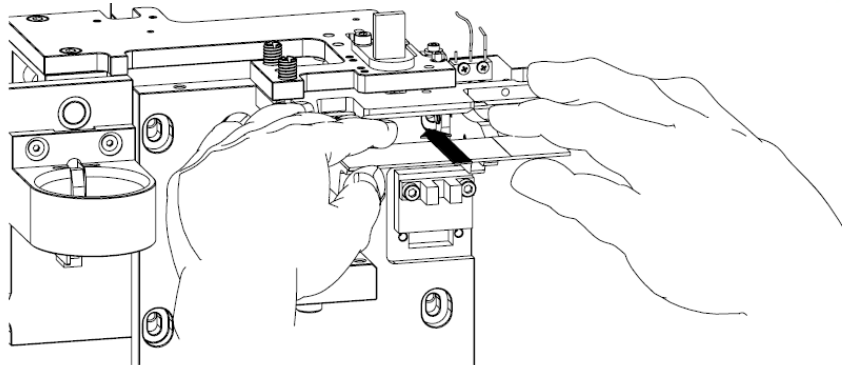

Figure 19 – Positioning of the slide
- Carefully fit the empty end of the FILTER (face that does not contain the membrane) to the PRE-FILTER, with rotating movements, until the end of the stroke - as shown in Figure 19 - Positioning the filter in the pre-filter;
- Carefully fit the SLIDE into the slide SUPPORT and keep the print facing down and to the right as shown in Figure 19 – Positioning of the slide;